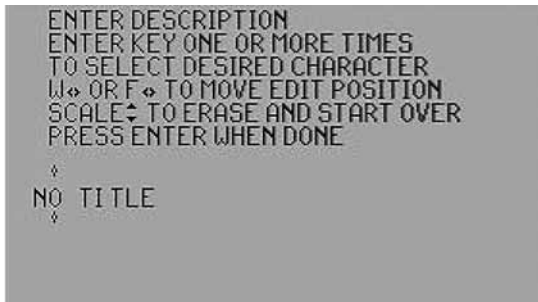

Figure 2-11
**DATA SAVE** – This menu item permits saving the current plot and the instrument settings used to obtain the plot. Press either ► arrow key to perform a Data Save function and call the Description Entry Screen shown in Figure 2-11.